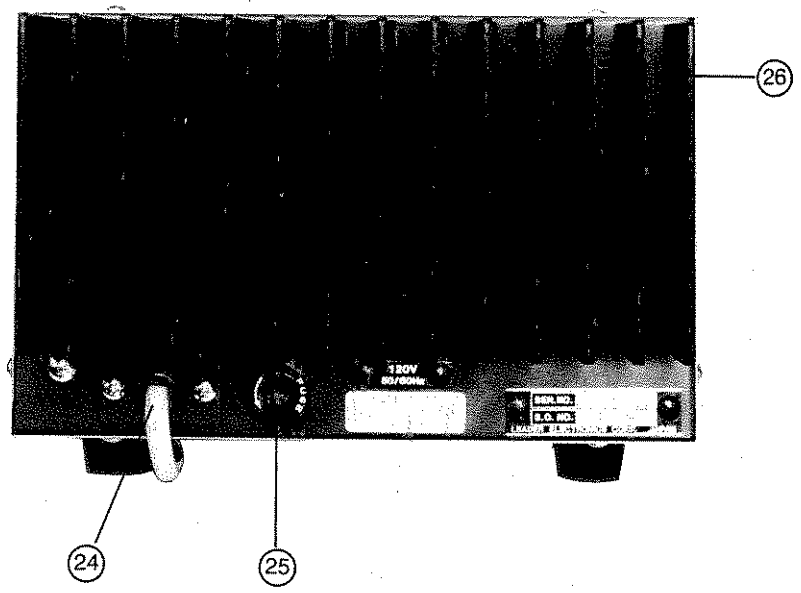

Figure 4-2. Rear Panel
- ⑱ VOLTAGE +6V control This sets the output voltage for the +6V source.
- ⑲ Voltmeter
- ⑳ Voltmeter Zero adjust
- ㉓ Ammeter Gives current indication in the ±25V and +6V ranges, selected by one of the METER mode (3), (4), and (5) buttons.
- Rear Panel.** Refer to to Figure 4-2.